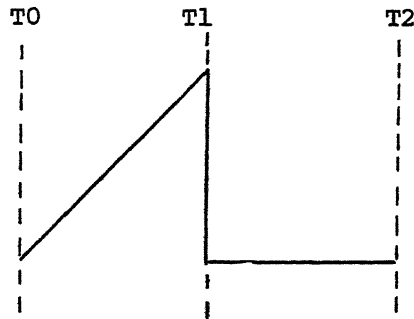

FIGURE 4
39. Refer to Figure 4. During the time period of T0-T1 the diode CR2 is _____ and C5 is discharging.